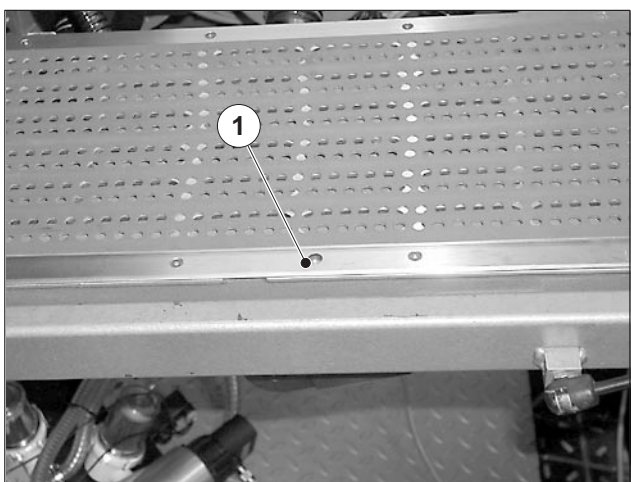

Fig. 88 Clamp bolt on the suction tape module
1. Turn the clamp bolt (Fig. 88/1) anti-clockwise in order to relieve the suction tape.